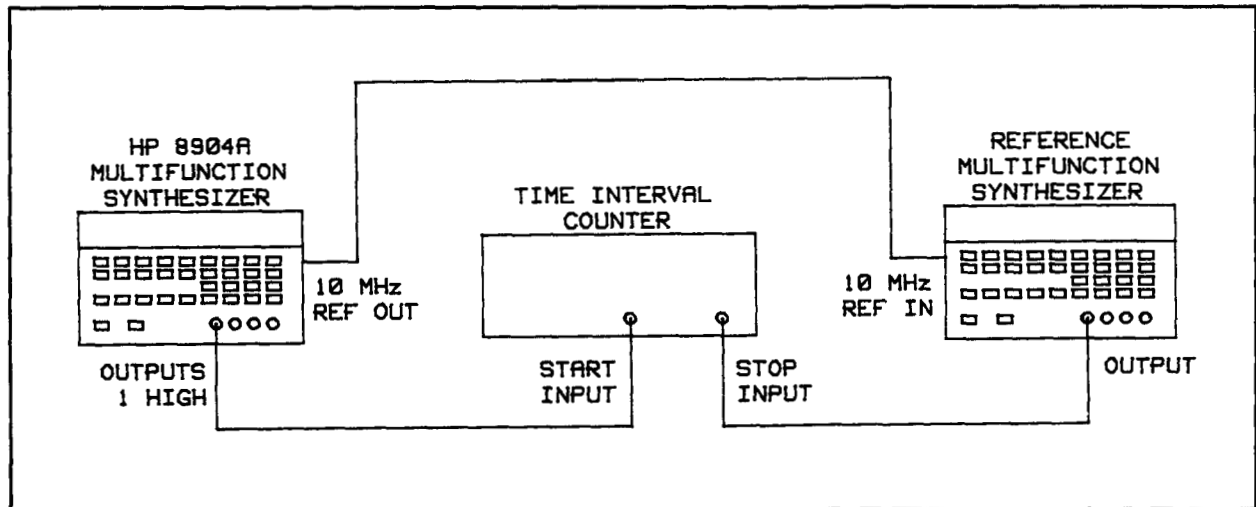

Figure 4-4. Phase Accuracy Performance Test Setup
1. Set up the equipment as follows. Refer to Figure 4-4.
5. Set up the equipment as in step 1 except connect the test Multifunction Synthesizer's OUTPUTS 2 HIGH output to the start input of the time interval counter. Refer to Figure 4-4.